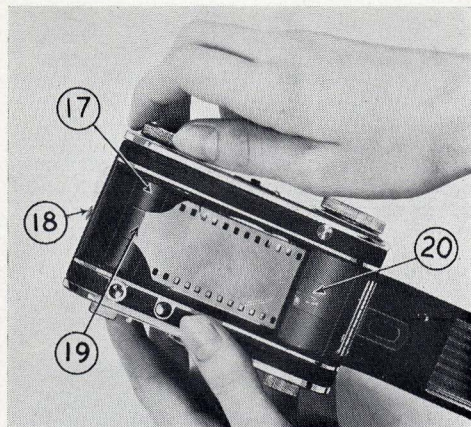

FIGURE 3
Open the back by pushing the catch button (18, Fig. 3) up, and pulling it open by means of the button on the end.
The film must next be threaded into the camera as shown in Figure 3. Draw out enough film to reach the winding shaft (17). Slip the end of the film under the film holding spring (19) far enough so that it is securely held. If the projecting end of the film is trimmed into a tongue which lies either at the top or bottom of the film strip, so that it does not engage the holding spring, this will have to be torn or trimmed off so